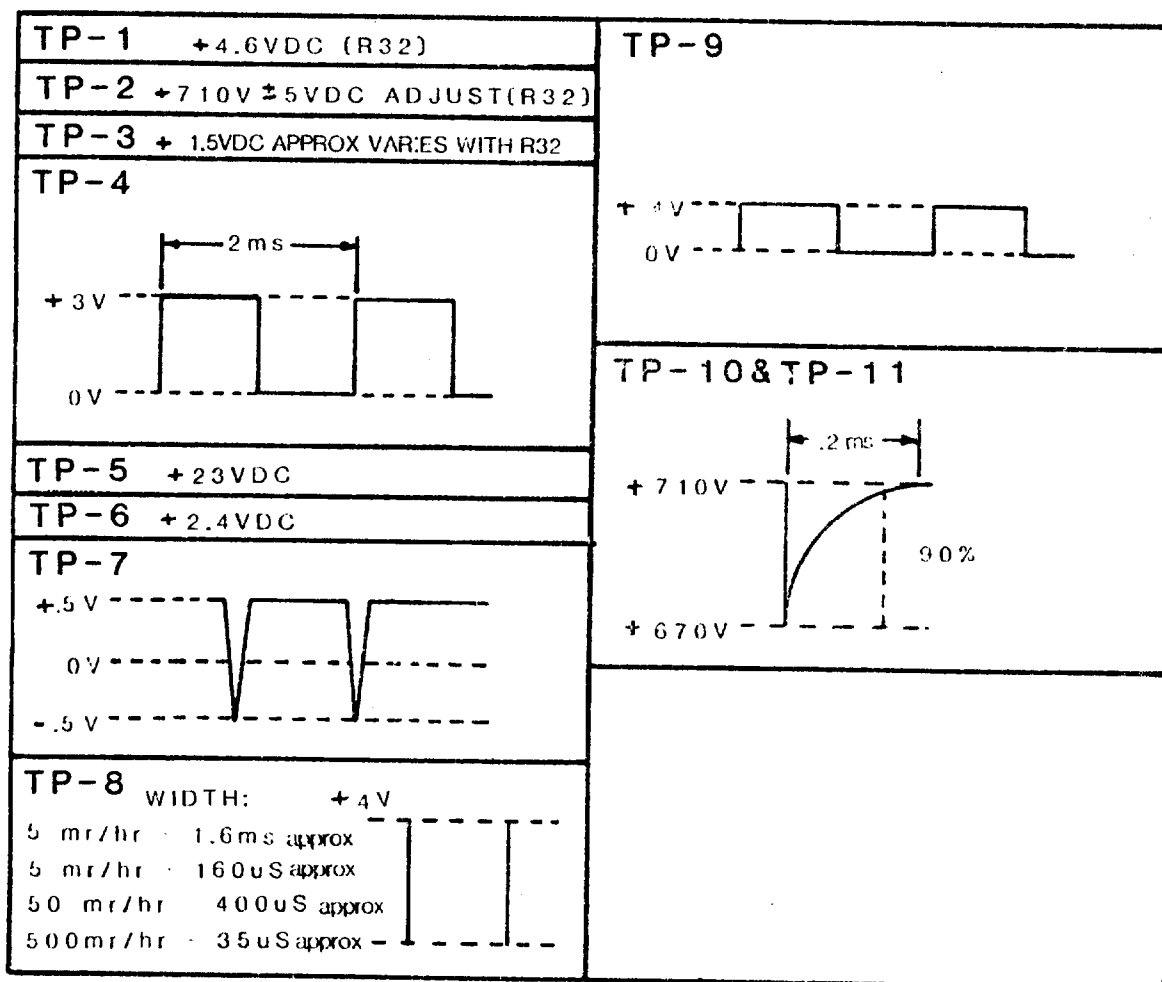

FIGURE 7-3. TEST POINT WAVEFORMS
d. Test Point Waveforms. Figure 7-3 shows a graphic presentation of the actual voltages and waveshapes taken at the test points on 1A1. This information should greatly facilitate troubleshooting of the radiacmeter when used in conjunction with the Tables of Section VI.